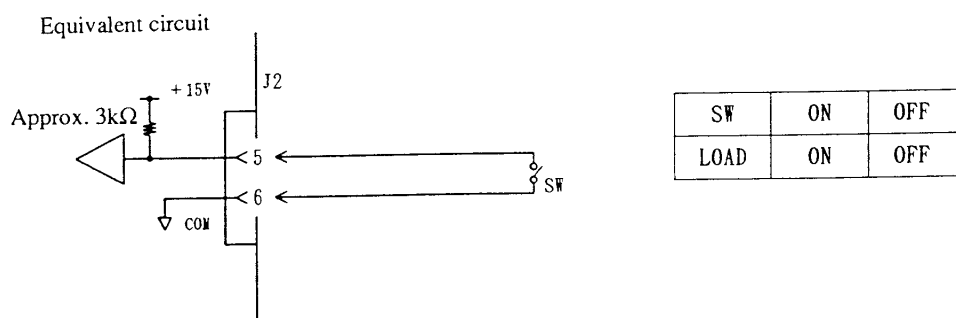

Figure 3.7-9
You can remote-control the load-on/off state of a single unit of Electronic Load by applying an external contact signal to terminals ⑤ and ⑥ as shown in Figure 3.7.9. To turn Load-on/off with contact signal, turn the electronic load Load-off state with **[LOAD]** key on the front panel.